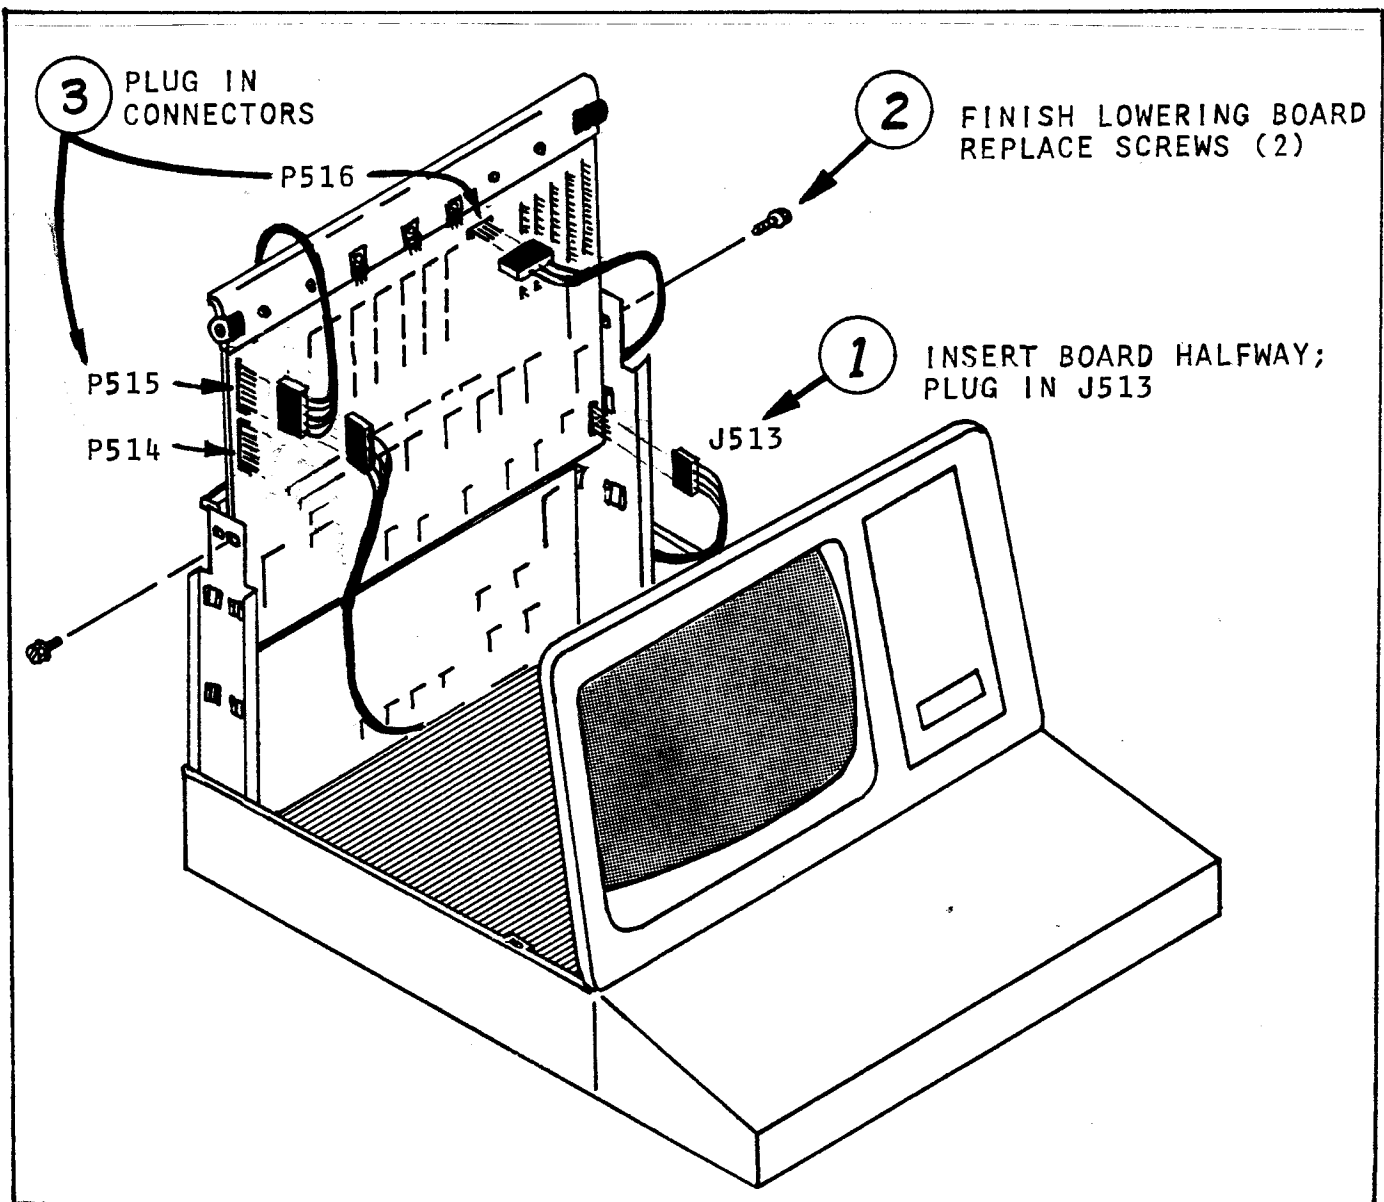

FIG. 1-10 INSTALLING THE H-1000 IN OLDER H/289s
- () Refer to fig. 1-10, and slide the H-1000 about halfway into the card guides. Locate connector J513 (at the end of the cable from the Terminal Logic Board), and plug it into P513 on the H-1000 (in the lower right-hand corner). Be sure that the slotted side of J513 faces toward the right.
Check the ROMs you installed on the H-1000. Make sure they are in the correct sockets, and have pin 1 at the correct end (see fig. 1-10 or 1-13). The following ROMs are acceptable. If you have a non - Heath/Zenith disk controller board, some of these ROMs may be different.